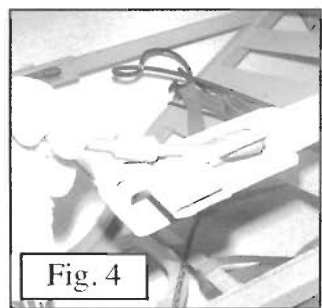

Fig. 4
B. Take one end of the cable and begin to slide it down into the tubing, as shown in **Figure 4**. Once the cable is easily sliding into the tubing (it helps to bend the cable upward while pushing down on it), you are ready to place it in its final